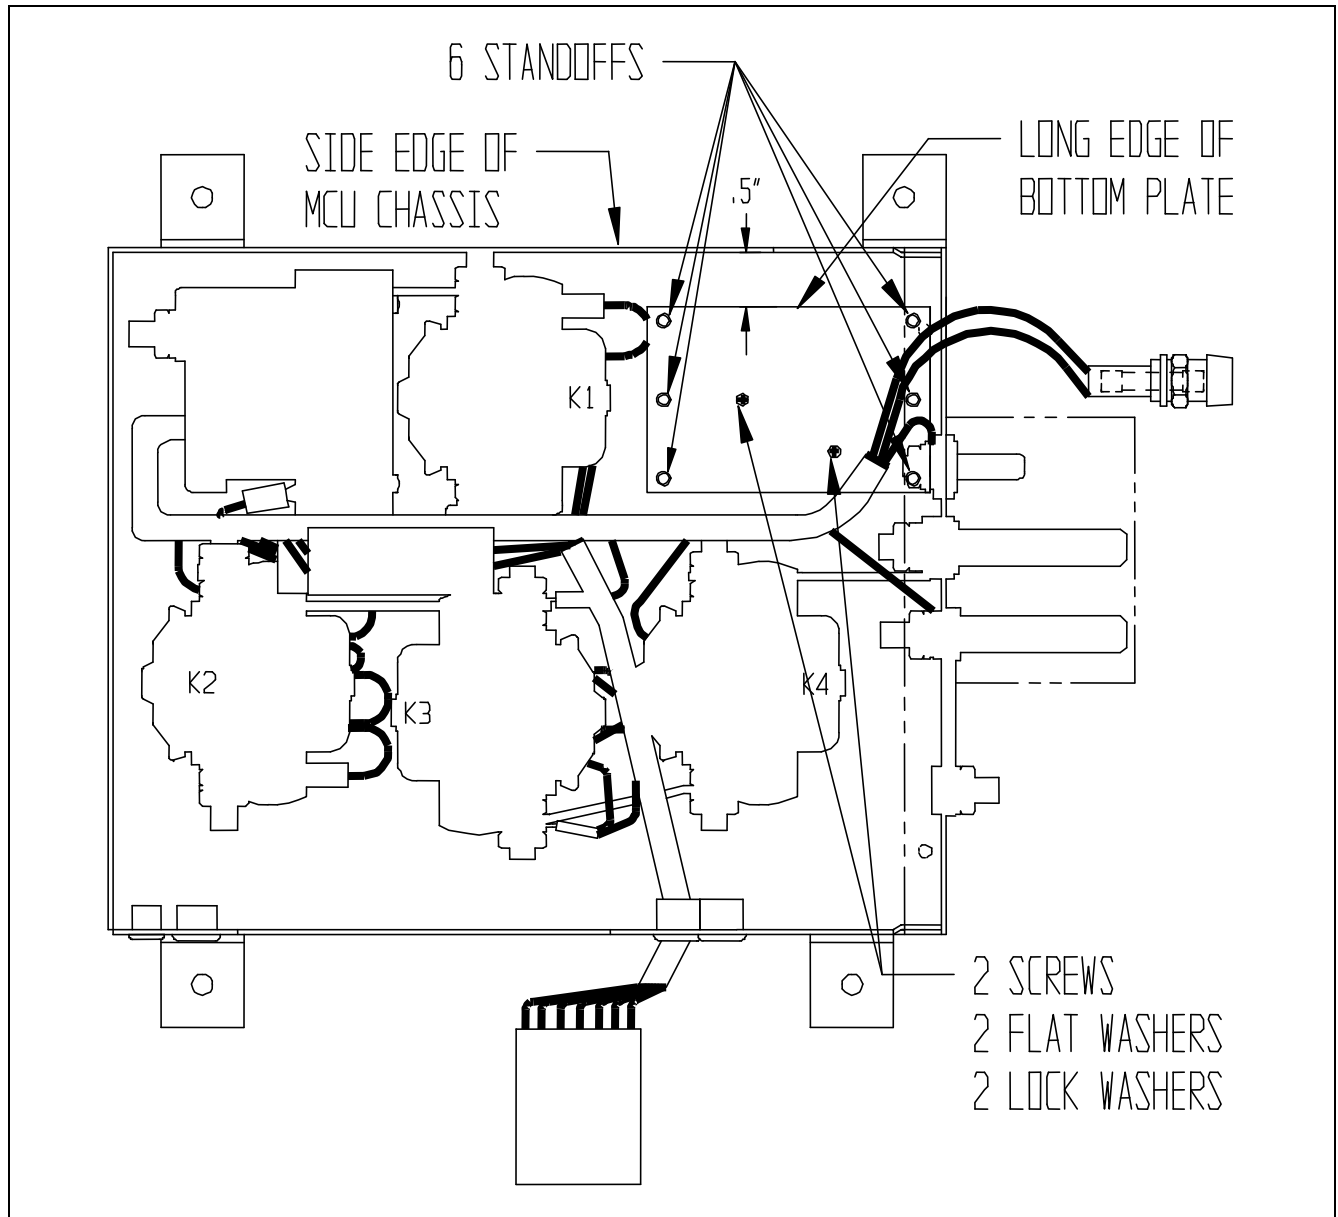

FIGURE 3: MCU with bottom plate of circuit breaker assembly installed.
11) Install the BOTTOM PLATE of the circuit breaker retrofit kit in the MCU CHASSIS and secure with 2 SCREWS, 2 FLAT WASHERS, AND 2 LOCK WASHERS provided. (See Figure 3)